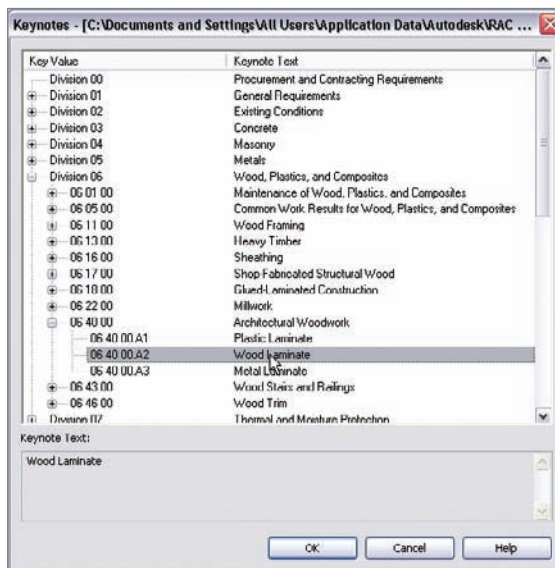

FIGURE 11.97 Finding 06 40 00.A2 Wood Laminate
7. Select 06 40 00.A2 Wood Laminate (see Figure 11.97).